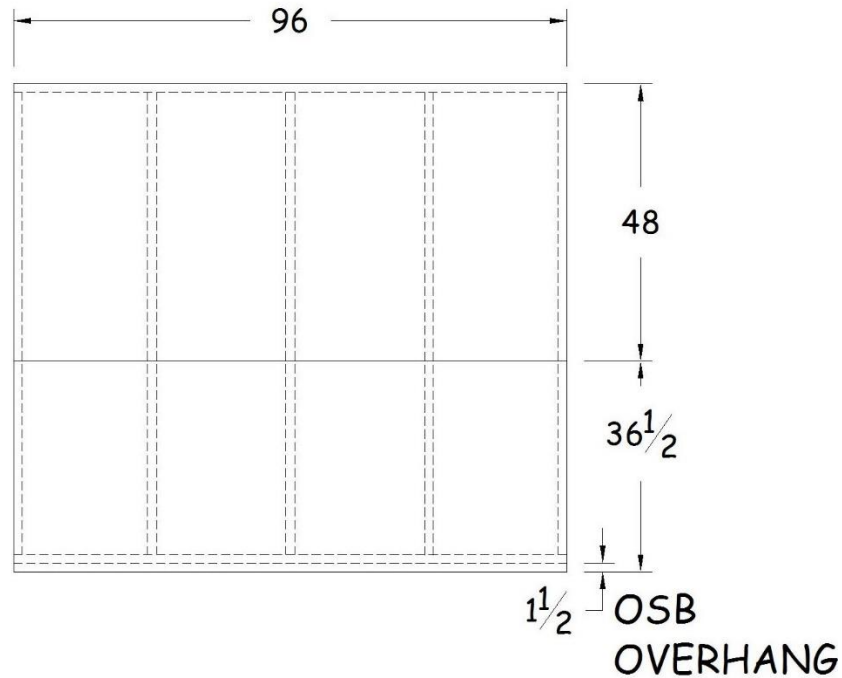

Figure 22-8. Side Wall Sheathing.
- c. Cut two additional pieces of 1/2" OSB approximately 36 1/2" x 96", to fit below the upper section of OSB. These pieces should fit tight to the upper OSB pieces and overhang the bottom plate by 1 1/2". Nail into all studs and the bottom plate with 2 3/8" collated nails every 8-12". See Figure 22-8.